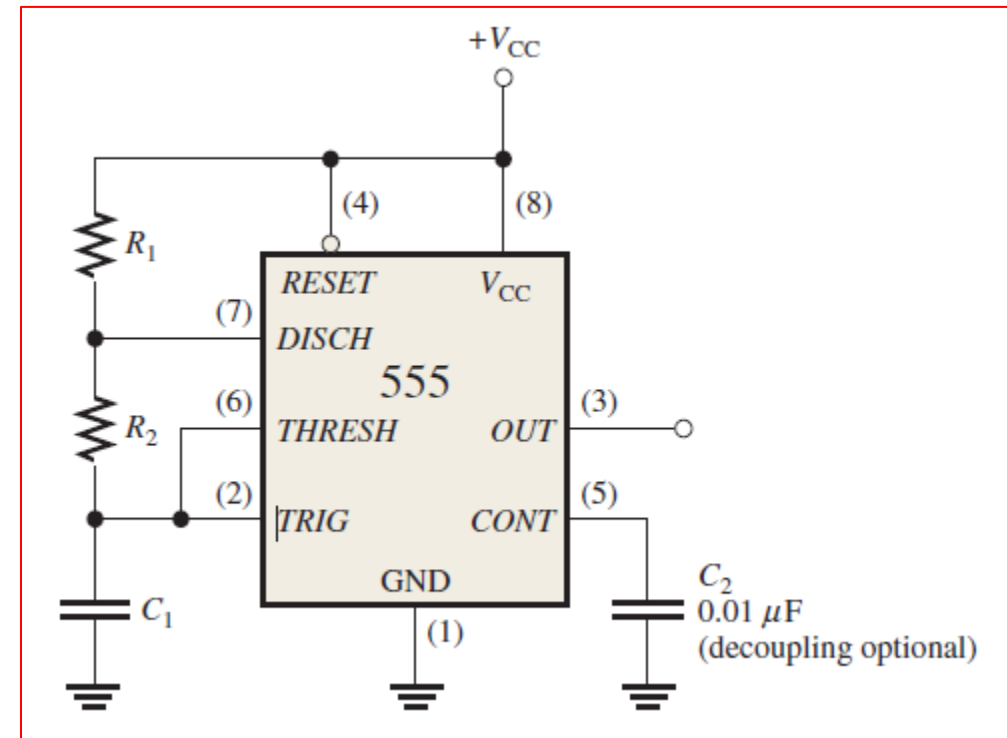

FIGURE 56 The 555 timer connected as an astable multivibrator (oscillator).
- A 555 timer connected to operate as an astable multivibrator is shown in Figure 56.
To achieve duty cycles of less than 50 percent, the circuit in Figure 56 can be modified so that C_1 charges through only R_1 and discharges through R_2 . This is achieved with a diode, D_1 , placed as shown in Figure 59. The duty cycle can be made less than 50 percent by making R_1 less than R_2 . Under this condition, the expression for the duty cycle is